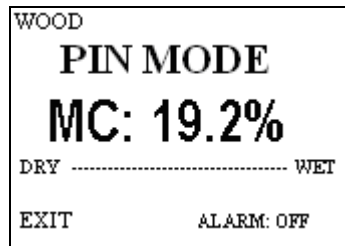

Figure 1 Keypad Layout
The meter uses an on-screen, menu-driven approach to navigate through the meter features, allowing for an intuitive understanding of keypad functions. Each screen presents the user with a number of selectable options. One of the options is always selected and the user can move (navigate) the selection to any other available option. The keypad is aimed at providing navigational control, and not at accessing specific features. There are four directional keys aligned intuitively around a middle (fifth) key (see Figure 1): Above (UP), below (DOWN), to the right (RIGHT) and to the left (LEFT). The middle key is used to SELECT the option highlighted on the screen. For purposes of this owner's manual, the five keys will be referred to as ⇐ ⇒ ↑ ↓ and SELECT.